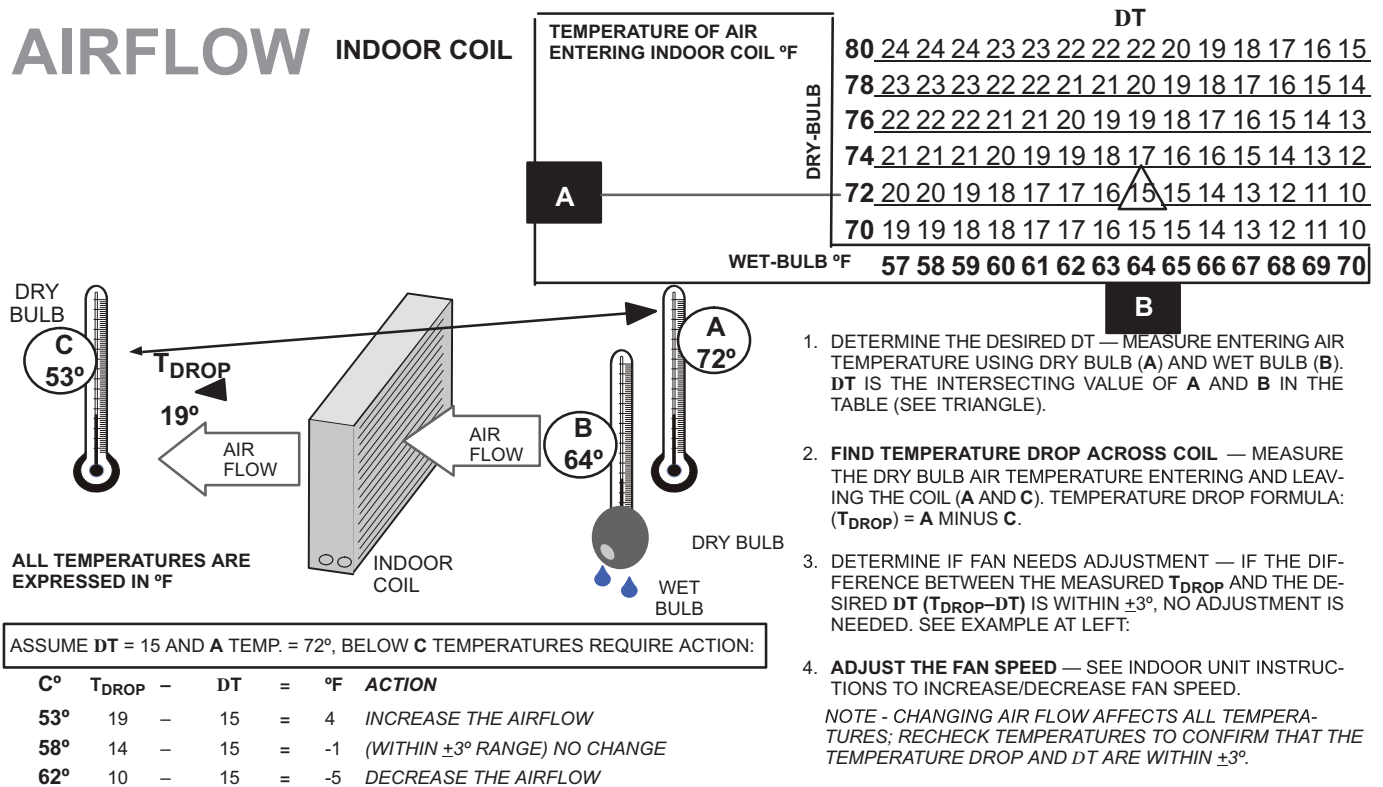

FIGURE 49. Checking Indoor Airflow over Evaporator Coil using Delta-T Chart
- 1 - Connect a gauge set for testing and charging as illustrated in figure 49.